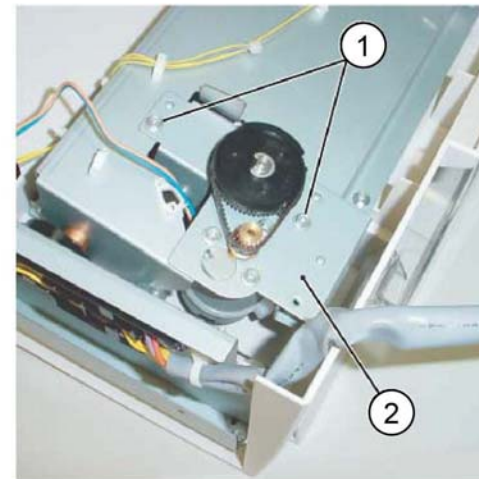

Figure 3 Stacker motor assembly removal
7. Remove the stacker motor assembly, Figure 3:
- a. Remove two screws (1).
- b. Remove the stacker motor assembly (2).